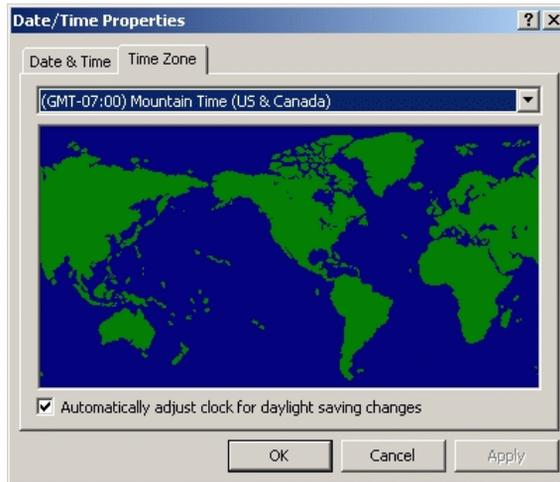

Figure 26 Date/Time Properties Dialog Box (Time Zone Tab)
3. Click the *Time Zone* tab. The *Date/Time Properties* dialog box displays with the *Time Zone* page open (Figure 26).